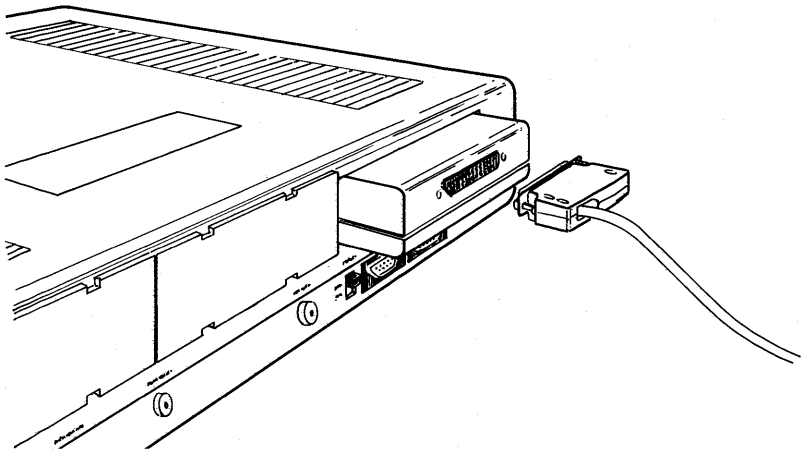

Figure 3-1: Attaching the serial device cable
1. Attach the D-shaped connector of the device cable to the connector on the rear of the RS-232-C Module (see Figure 3-1).